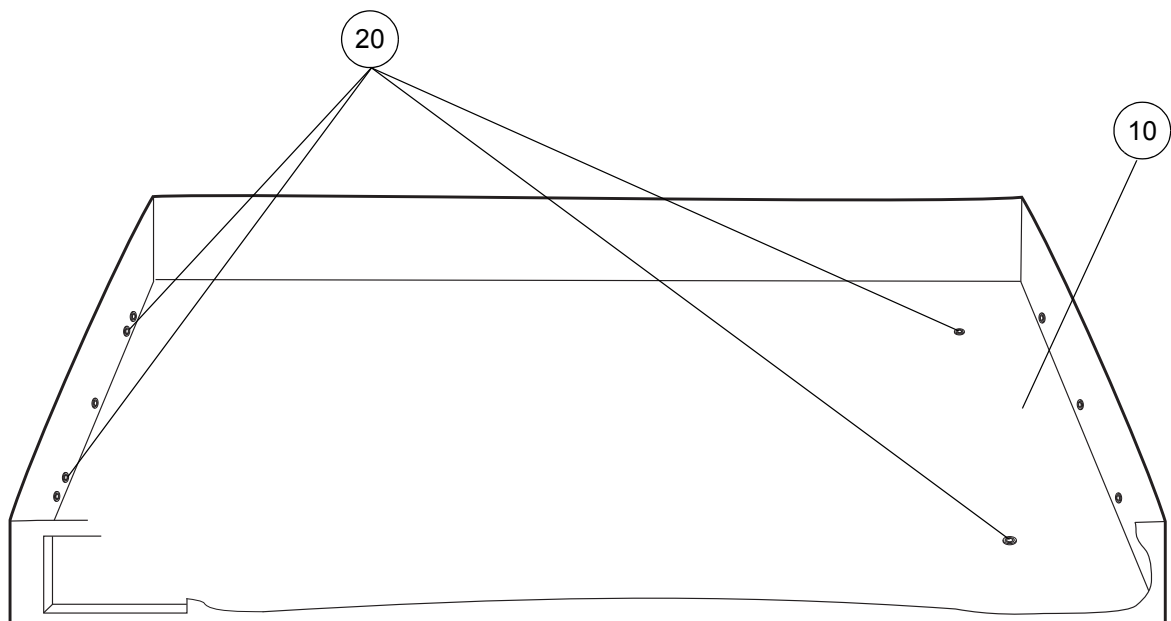

Figure 31 - Base cover positioned for installation of cell/Auto Matt assemblies
- 5.1 Lay out the new base cover (Figure 31).
- 5.2 Position the cell/Auto Matt assembly in the base cover (Fig 31, Item 10) head end making sure the CPR is on the same side as the CPR cut-out on the base cover.
- 5.4 Secure the Auto Matt assembly using the two pop studs at the foot end and the two pop studs at the head end (Fig 31, Item 20).
- 5.6 Fit the CPR assembly (Fig 31, Item 10) into the base cover corner pockets (Fig 31, Item 20).
- 5.7 Secure the CPR assembly (Fig 31, Item 10) into the cover using the two security strap pop studs (Fig 31, Item 30).
- 5.8 Push the heel protector through the loop of the CPR securing strap (Fig 31, Item 30) and secure the pop stud (Fig 31, Item 10).
- 13.3 Unclip the CPR securing strap (Fig 31, Item 30).